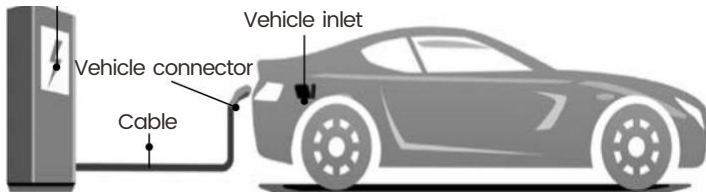

Fig. 6-13 Plug into EV
- d) As shown in Fig. 6-13, plug the charging connector into the AC charging socket of the EV, and the LED of the charging station lights yellow.